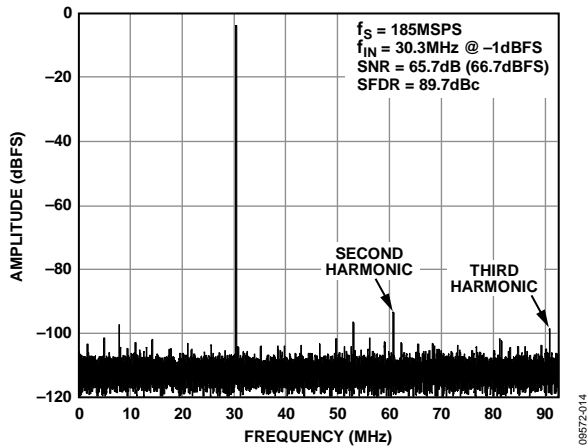

Figure 14. Typical FFT, AD6657
3. Click the disk icon within the **Graph – AD6657 Average FFT** window to save the performance plot data as a .csv formatted file. See Figure 14 for an example.